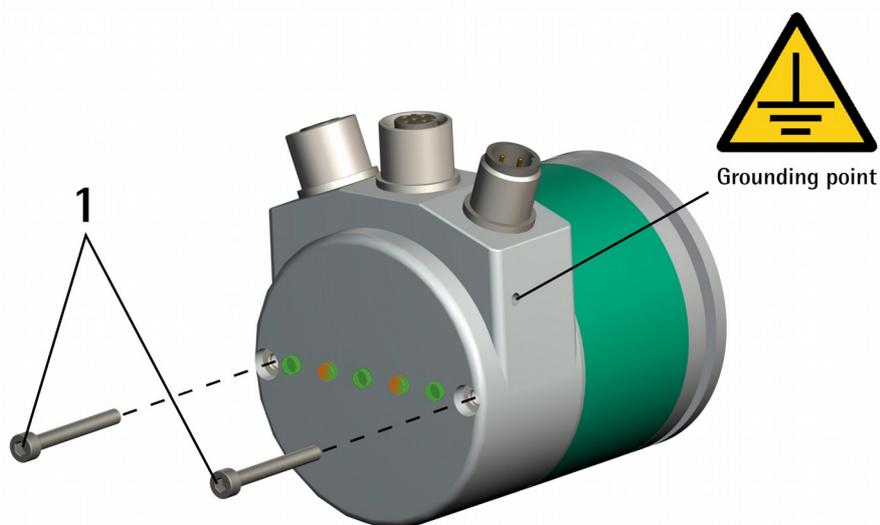

Figure 2 - Removing the connection cap
To access the DIP A dip-switch meant to reset the network configuration parameters to the factory values (default values) you must remove the connection cap. For any information on removing the connection cap please refer to the following "4.10 Connection cap (Figure 2)" section.
- remove the connection cap as explained in the following "4.10 Connection cap (Figure 2)" section;
- replace the connection cap as explained in the following "4.10 Connection cap (Figure 2)" section;
#### 4.10 Connection cap (Figure 2)